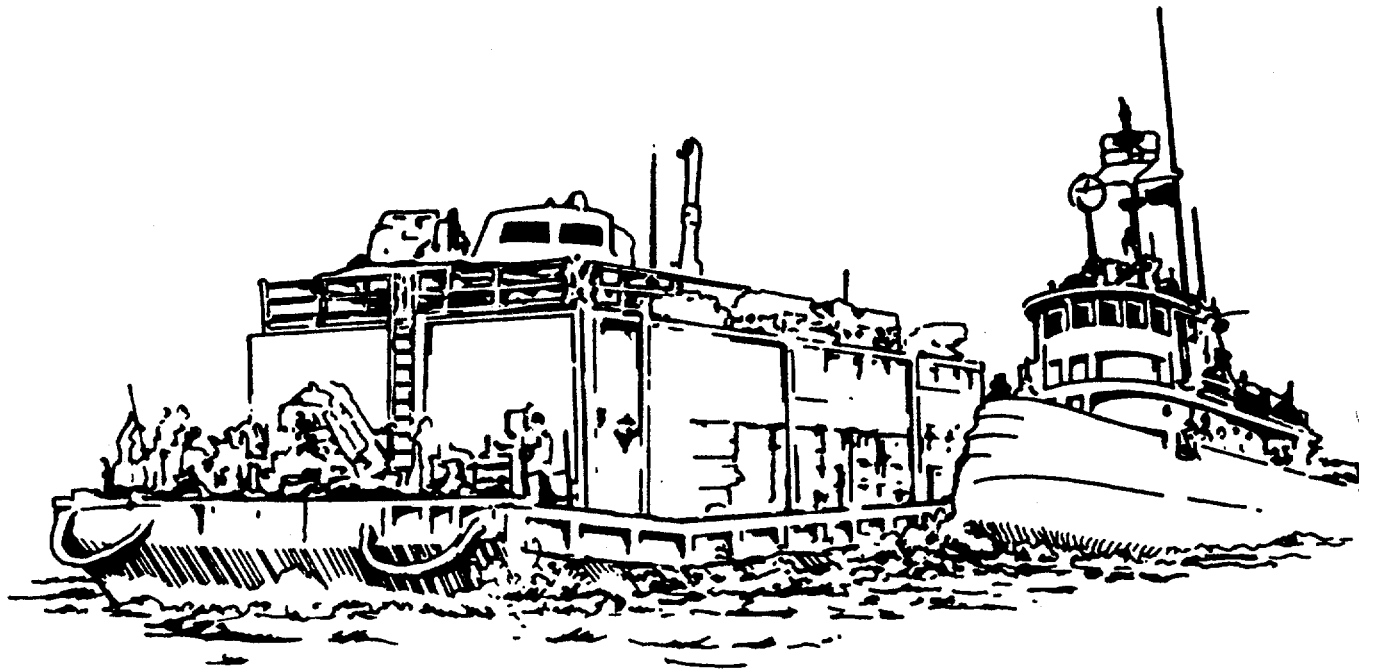

Figure 1-1. Tug with Barge on its Hip
1-1 Purpose. This technical manual (TM) provides the supplemental data for parts and material which support the Water Purification Barges (Figure 1-1). Unless otherwise specified, the data is applicable to Barges 1, 2 and 3. Location of major barge components is shown in Figures 1-2a, 1-2b and 1-2c.